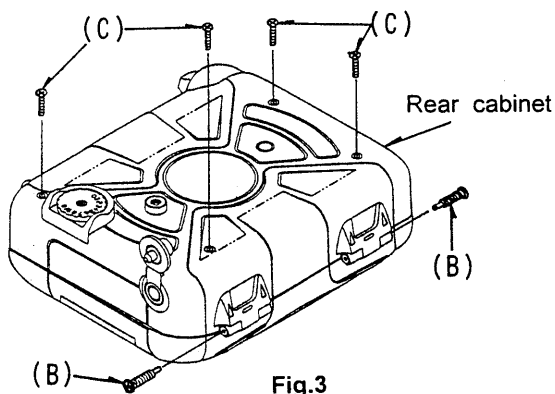

Fig.3
- Remove the screws (B) X 2 (See Fig.3).
- Remove the screws (C) (2 X 10) X 4 (See Fig.3).